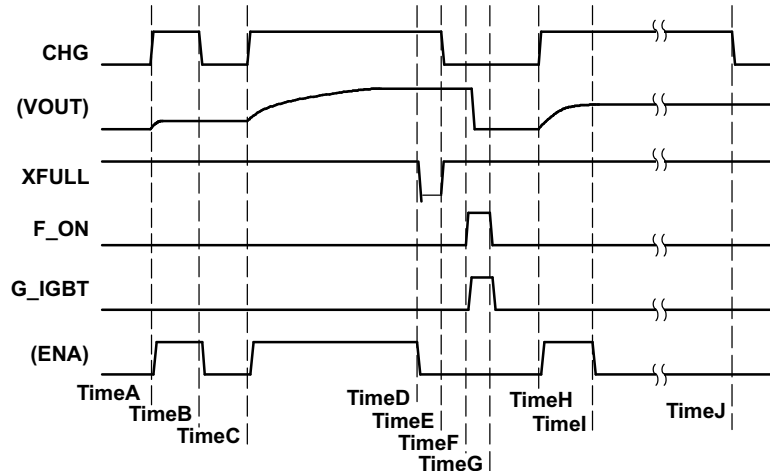

Figure 4. Whole Operation Sequence Chart
The only way to *start* charging is to input $\text{CHG}\uparrow$ (see time *A/C/H* in Figure 4). Each time $\text{CHG}\uparrow$ is applied, the TPS65560 starts charging.
1. Forced *stop* by inputting $\text{CHG} = \text{L}$ from the controller (see time *B* in Figure 4).
2. Automatic *stop* by detecting a full charge. *VOUT* reaches the target value (see Time *D* in Figure 4).
3. Protected *stop* by detecting an over current function (OV_{DS}) trigger at SW pin (see Time *I* in Figure 4).
The device starts charging at *timeH*, and OV_{DS} protection occurs at *TimeI* (see Figure 4). At *TimeI*, *XFULL* stays H. At *TimeJ*, the controller detects OV_{DS} protection through the expiration of a timer ends and then sets *CHG* to low to terminate the operation.
The TPS65560 provides an overvoltage monitor function of the SW pin. The TPS65560 is latched off if the voltage on the SW pin is above OV_{DS} during the switch ON time (see Figure 4 and its descriptions).